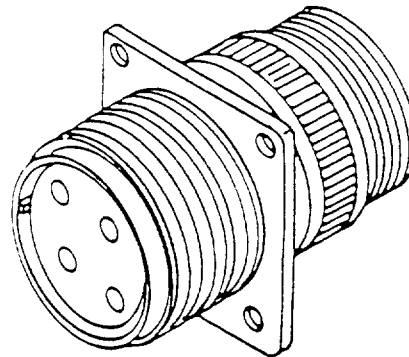

Figure 2. Typical Receptacle
6. **RECEPTACLE ASSEMBLY.** The receptacle assembly (Figure 2) is that part of the connector system that mates with the plug assembly, and is usually fixed